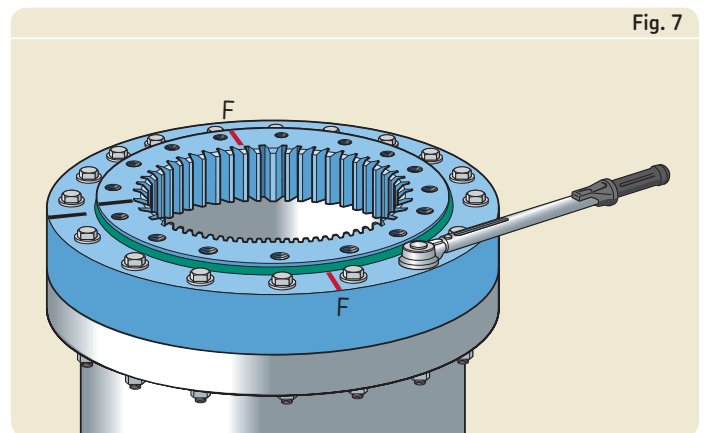
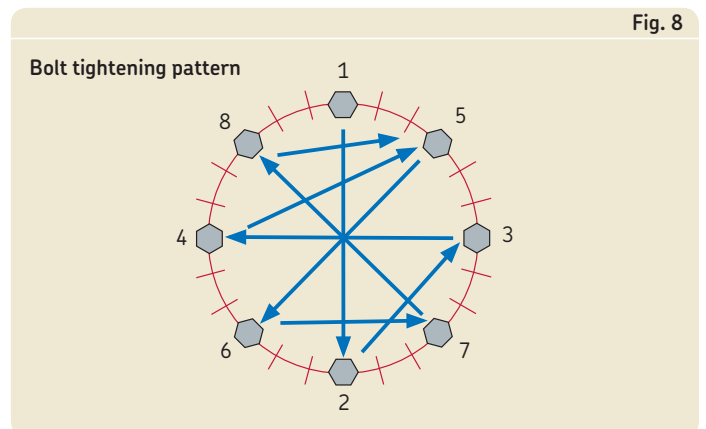

Fig. 7
Fig. 8
- 8 In a first round, tighten the bolts or nuts (→ **fig. 7**) to between 40 and 50 % of the prescribed value, following the tightening pattern (→ **fig. 8**). In a second round, fully tighten the bolts or nuts to the prescribed preload, following the tightening pattern.